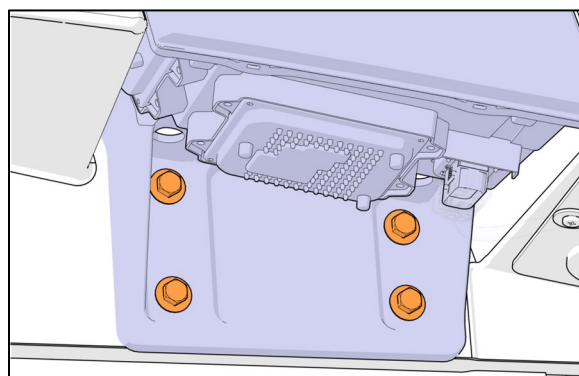

FIGURE 97
6. Mount the new headlamp module to the support. Tighten the six (6) nuts by hand only.
7. Perform final nut tightening in accordance with the tightening sequence (Figure 97).